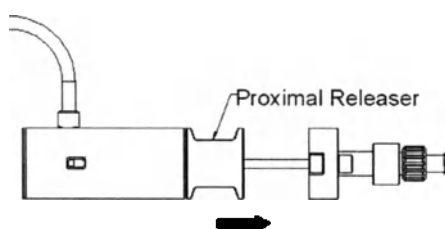

Fig. 10 Pull the Proximal Releaser
- Pull the Proximal Releaser to release the proximal end of the stent graft. (Fig. 10)